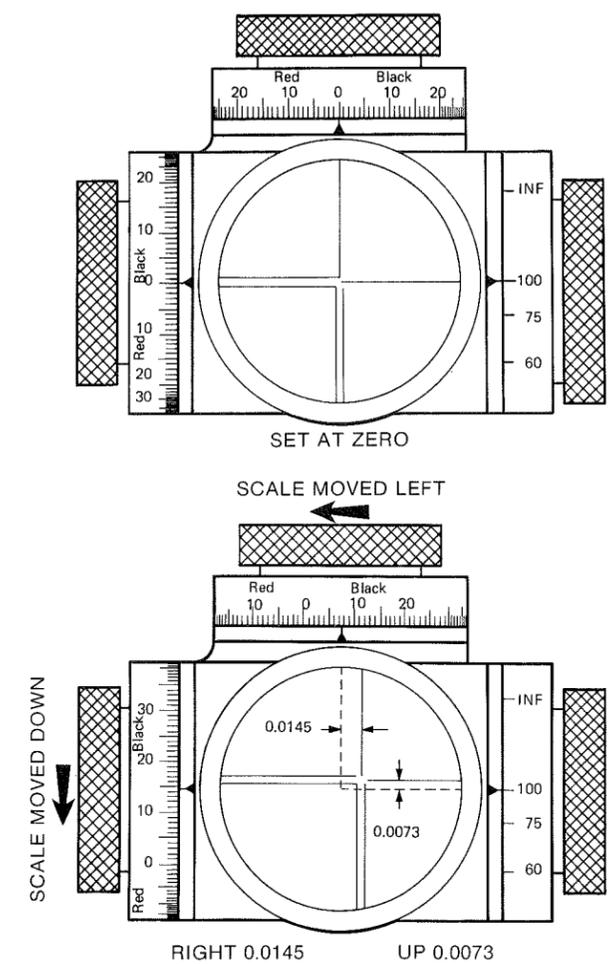

Figure 2-11. Operation of Optical Micrometers
**2-45.** The extent of movement of the line of sight produced by micrometer knobs is shown by graduated dials. (See Figure 2-11.) The dials are graduated in units of 0.001 inch, and are numbered in both directions from zero at the center to 0.050 inch at the ends. Black